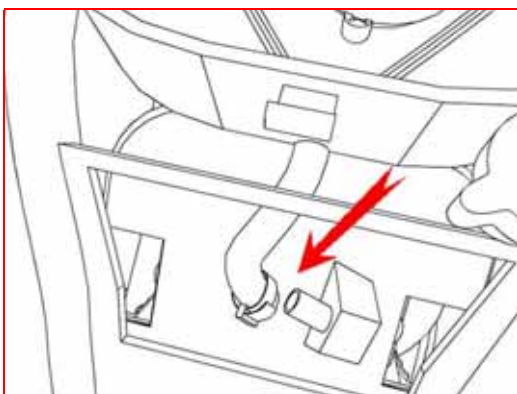

Fig 4
5. Loosen and remove the rear cylinder crankcase breather hose at the head cover. (See figure 4)